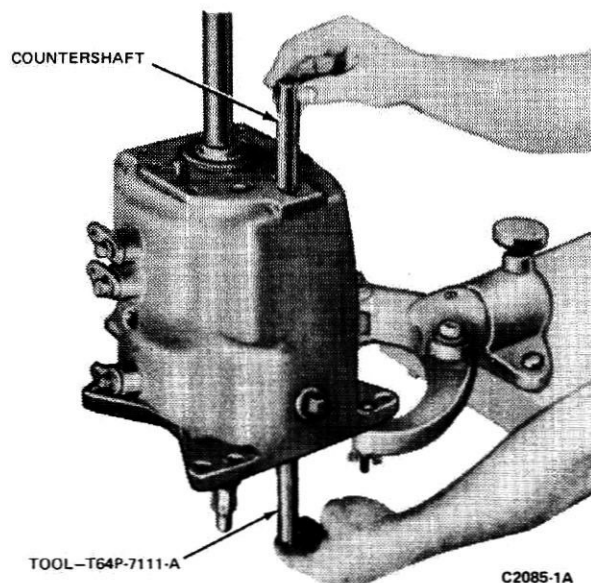

FIG. 16 Installing Countershaft
37. Place the transmission in a vertical position as shown in Fig. 16. Align the countershaft gear bore and thrust washers with the bore and thrust washers with the bore in the case. Install the countershaft.